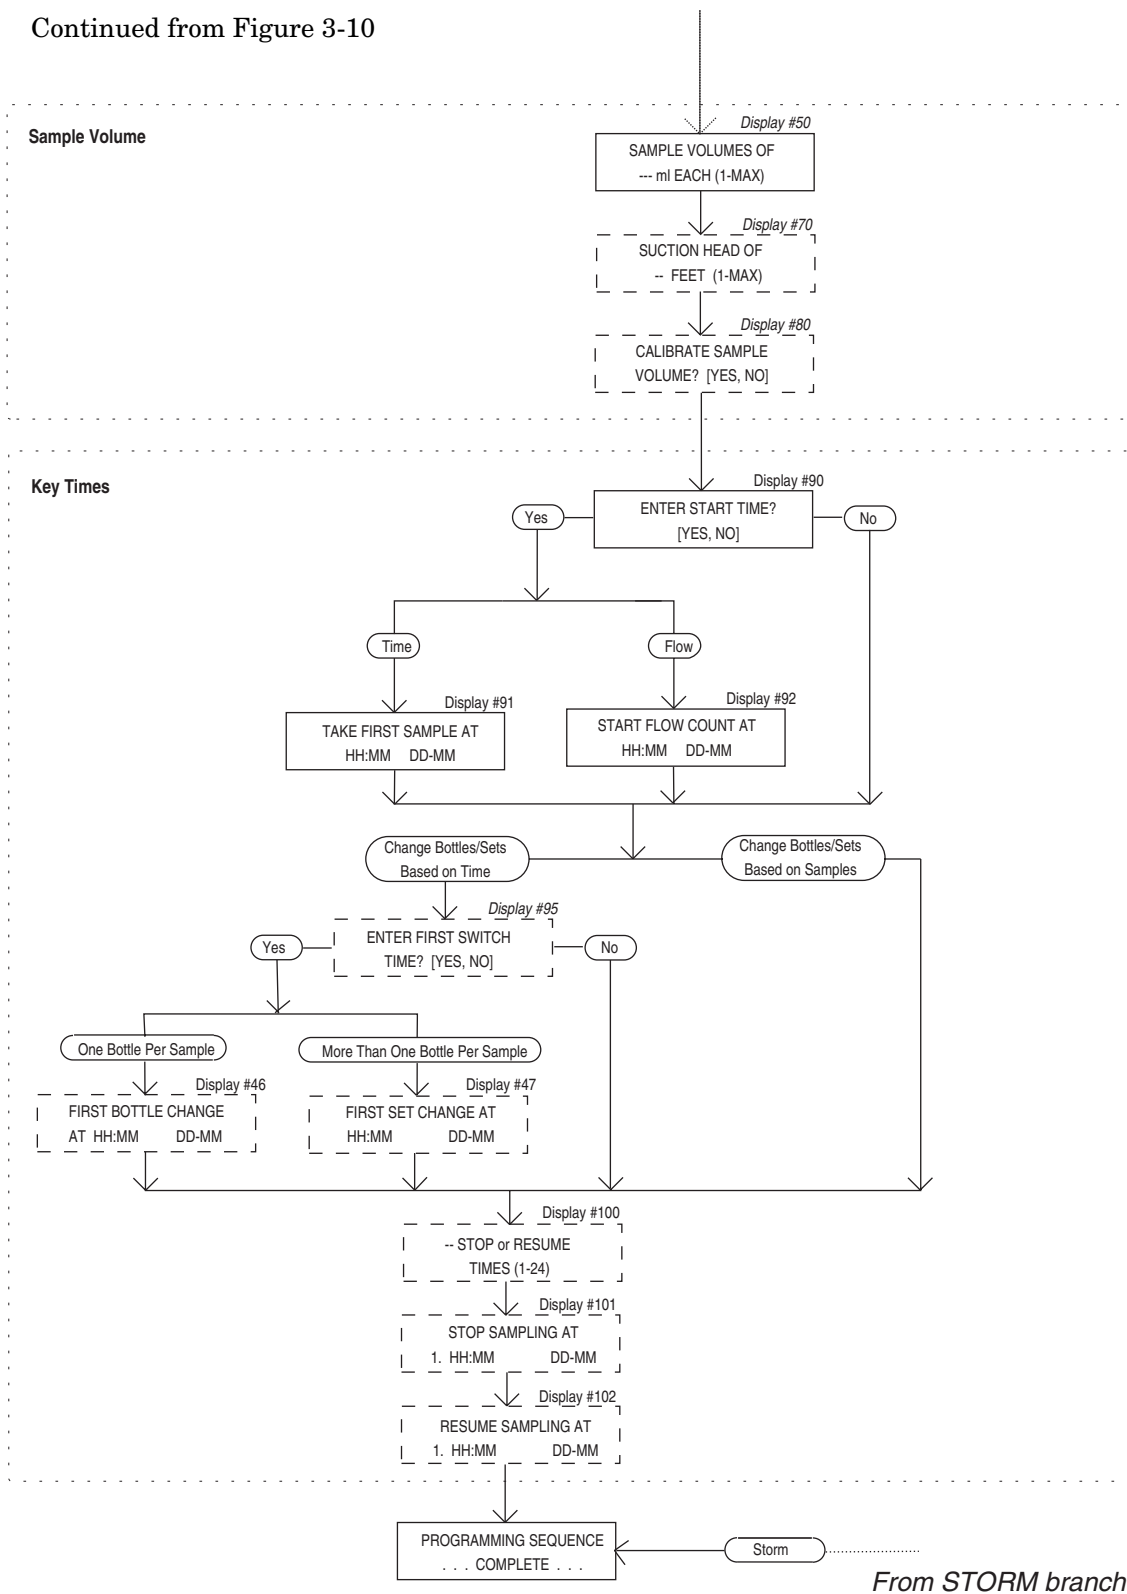

Figure 3-11 Extended Programming Mode: Sample Volume and Key Times
**First Switch Time** – The first switch time displays will appear only when you have specified bottle or bottle set changes based on time in the Sample Distribution section. If you select "TIME" rather than "SAMPLES" in the "CHANGE SETS BASED ON [TIME, SAMPLES]" display, you first will be asked if you want to enter a setting for the first switch time. If you respond "YES," you will be prompted for the time of the first bottle or set change. The first time-switch displays are indicated by Display #s 95, 46, and 47 in Figure 3-11.